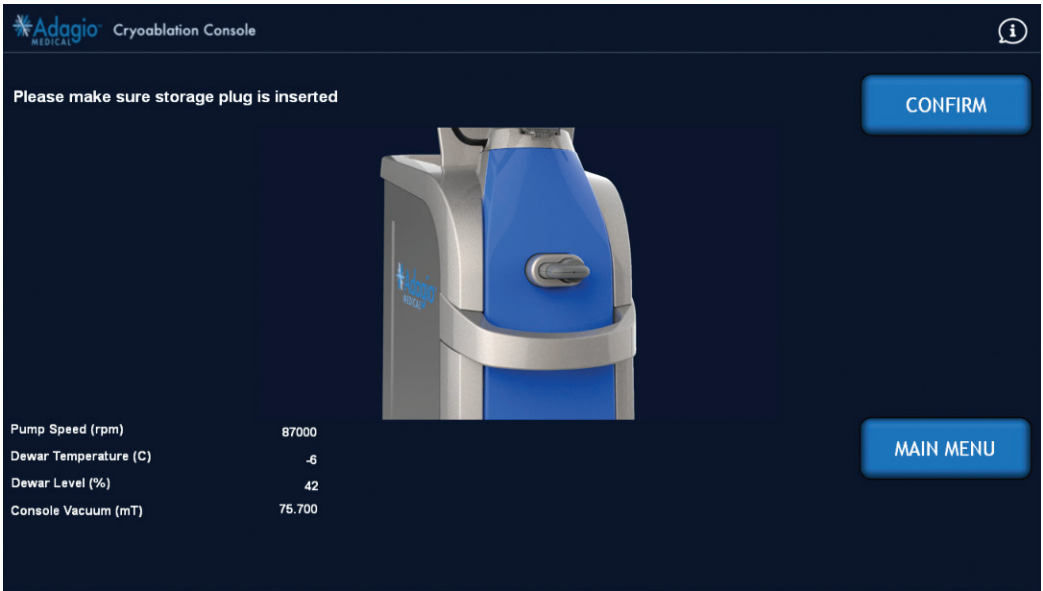

Figure 13 – Insert Storage Plug Screen Image
- 1. From the Main Menu (Figure 9), select “Prepare Console”. The storage plug must be inserted at this point (Figure 13). Press “CONFIRM” once the storage plug is put in place.